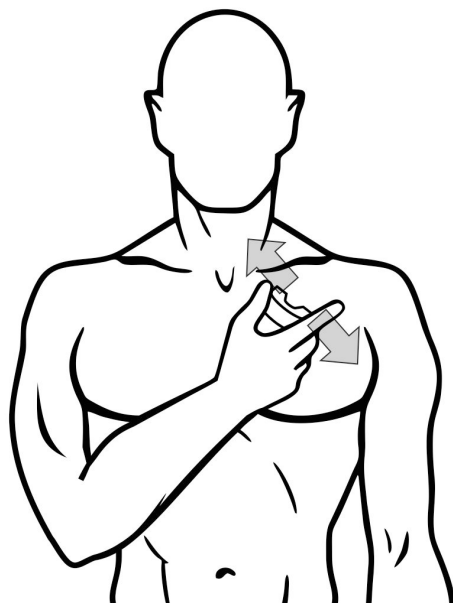

Figure 5.10: Magnet Swipe
5. To begin stimulation, swipe the magnet across the patient's chest where the IPG is located (see Figure 5.10). This will cause the VNS session to begin for the programmed **Magnet Mode Duration**.